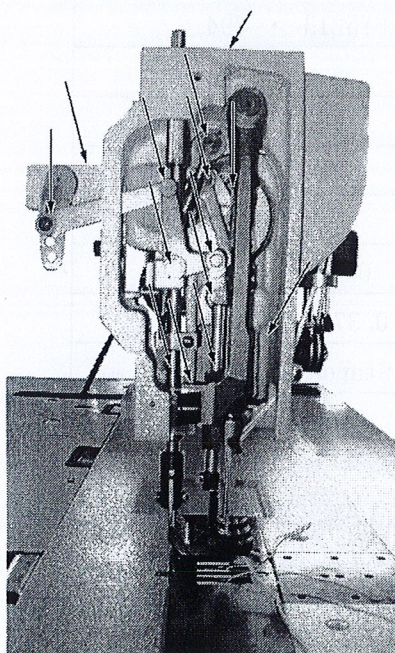

Fig.2
## OILING (Figs. 2、3、4 & 5)
1. Oil should be applied at each of the place designated by arrows in Fig. 2, 3, 4&5.